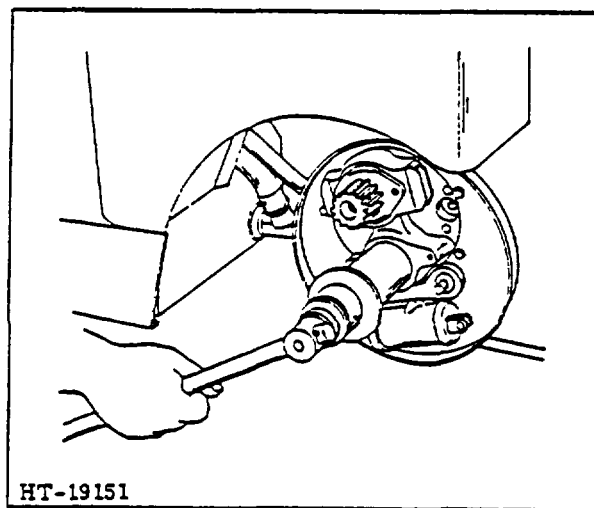

Figure 13. Removing Spindle
- d. Install a spindle puller as shown in Figure 13 and remove the spindle.